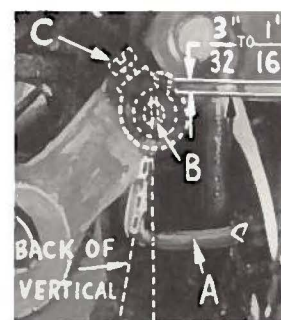

Fig. 7
Insert upper spreader (A, Fig. 7) in its holder. Screw (B, Fig. 7) holds spreader in its holder, and permits spreader to be pushed in or out, or turned around its shank. Screw (C, Fig. 7) on collar holds spreader holder in the shaft, and allows holder to be rotated or adjusted laterally.
**Preliminary Setting:** When spreader is at the right end of its stroke, spreader holder should be set to position spreader shank slightly back of vertical (Fig. 7). Top end of spreader shank should extend  $\frac{3}{32}$  to  $\frac{1}{16}$  inch above the holder (Fig. 7).